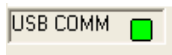

FIGURE 30.
- **USB Communication** - Check to make sure the light shown in Figure 30 is green. If it is not green, check your connection.